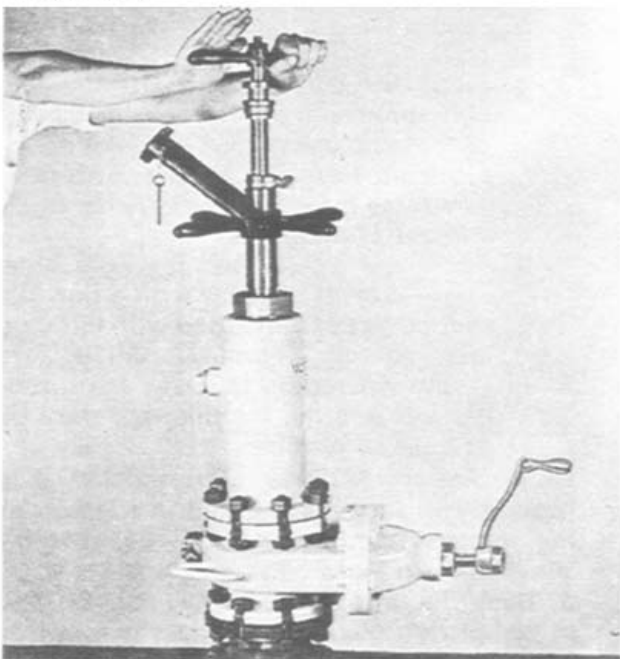

FIGURE 25
12. Remove plug inserting tool from completion plug by turning the "T" handle counter-clockwise. When using plug inserting tool (Part Number 36462) previously furnished with Unit No. 2, first turn the "T" handle counter-clockwise to take up slack and strike handle a sharp blow counter-clockwise. **Figure 25.** Inserting bar should now be free to turn.